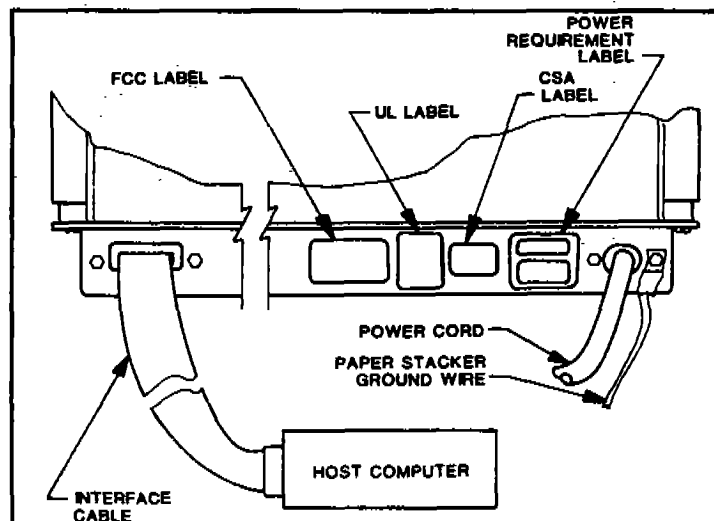

FIGURE 7-7.
1. Check to be sure the voltage shown on the printer ID label is the same as the site line voltage. (See Figure 7-7).
4. Connect the interface cable (customer supplied) between the printer's interface connector and the host computer. (See Figure 7-7).